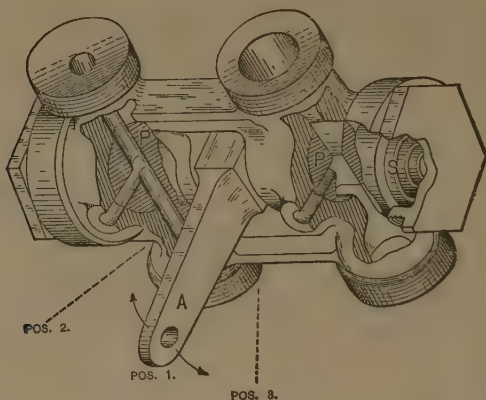

Fig. 360. Baldwin (Vauclain) Combined Starting-Valve and Cylinder-Cock.
A. As shown in Figs. 360 and 361, there is a casting in
In position 1 of the lever, as in Fig. 360, the starting valve is open to admit live steam to the low-pressure cylinder, and the cylinder cocks are open to the atmosphere.
A. As shown in Fig. 360, when the valve is in starting position, live steam passes across from that end of the H. P. cylinder which is receiving steam from the boiler to the other end of the same cylinder, and thence through the main valve